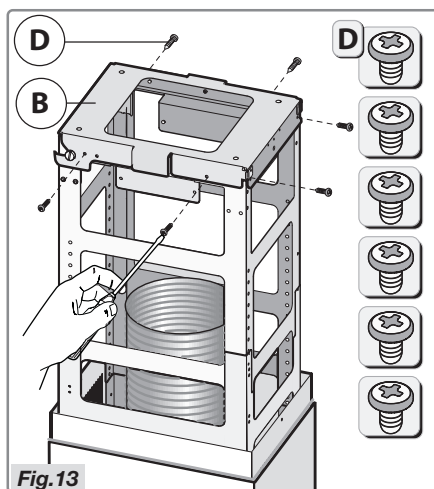

Fig.13
- **Attention!** Fasten the hood immediately on the bracket **B** with the 6 screws **D** (Fig.13).